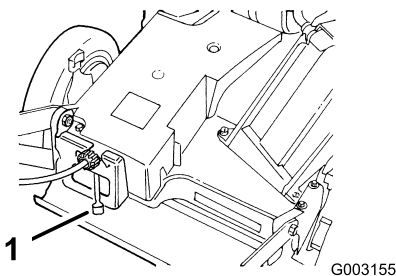

Figure 14
4. Move the ground speed control to the Neutral (N) position (Figure 14).
The lawn mower has 3 ground speeds. 1 is slow, 2 is medium, and 3 is fast. The ground speed control is located at the rear of the belt cover (Figure 14).